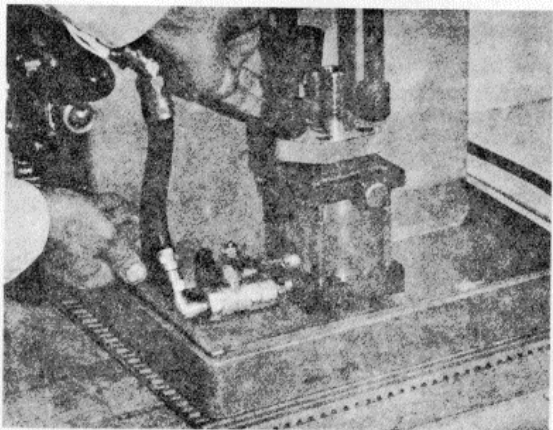

Figure 16H-75. Clamping Cylinder and Seat
4. Before clamping the injector in the test stand, the cam must be timed by rotating the timing wheel so the wheel mark and pointer are aligned, Figure 16H-76.